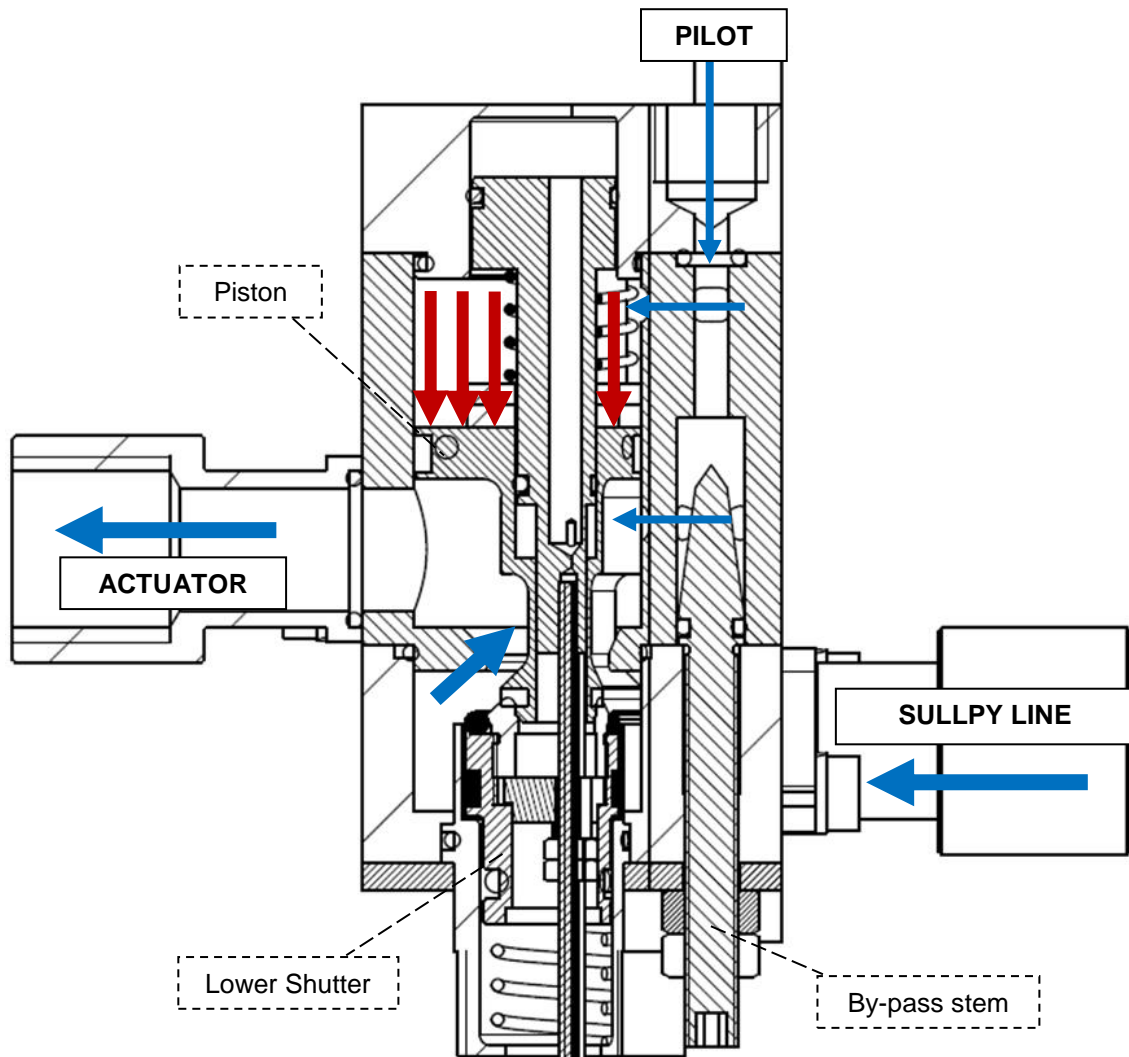

Figure 8 – Charge setup: on-off model
- c) if the flow rate is much greater than a threshold value depending on the by-pass stem adjustment, the by-pass stem throttling generates a pressure drop between the two side of the piston and the working fluid pushes down the piston and the lower shutter, allowing the connection between the BR supply and the actuator chamber. In this case the lower shutter generates the greatest flow section available because the piston reaches its lower stroke limit. This case is called "on-off mode" (figure 8).